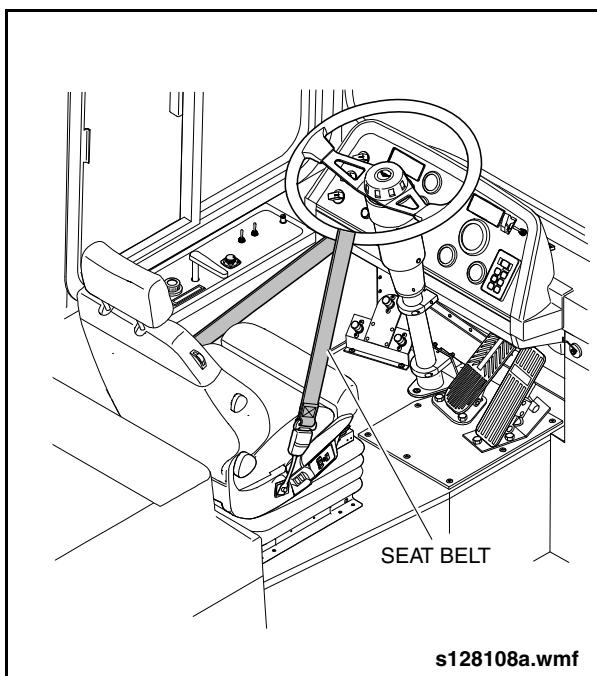

Fig. GI-26: Securing Steering System
- b. Secure the steering system in this position by looping the driver's seat belt around the lower portion of the steering wheel and clipping it into the seat belt buckle. See "Fig. GI-26: Securing Steering System" on page 51.